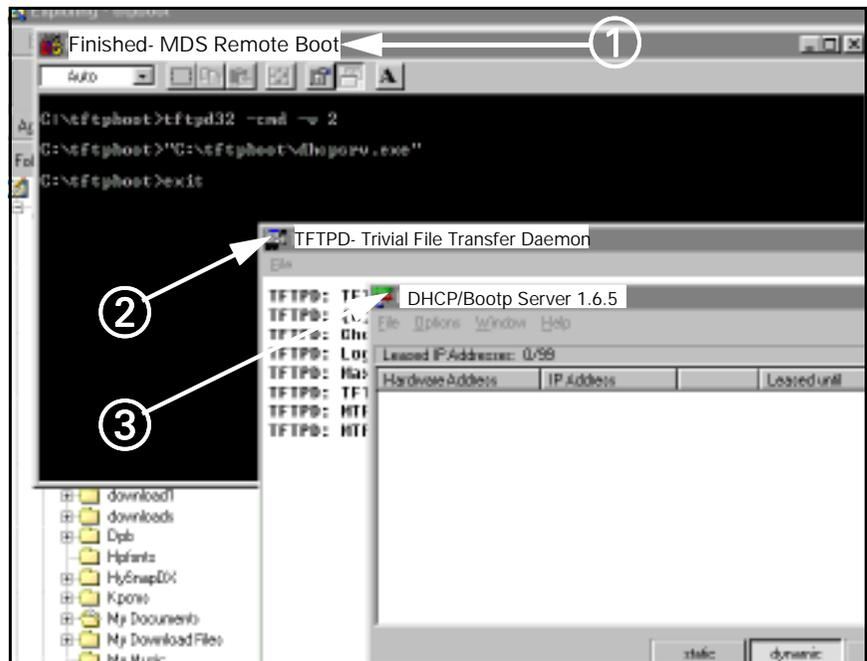

Figure 3-13 Window TFTP
5. Verify “Finished - MDS Remote Boot” window (① in Figure 3-13) opens, then “TFTP - Trivial File Transfer Daemon” window (② in Figure 3-13) opens, then DHCP/Bootp Server 1.6.5 window (③ in Figure 3-13) opens. If windows not displayed repeat steps 2-4 above.
Note: DHCP/Boottp Server 1.6.5 window may open minimized. If window is not displayed on Main screen,(③ in Figure 3-13) check to see if program is in Windows Task bar at bottom of screen.